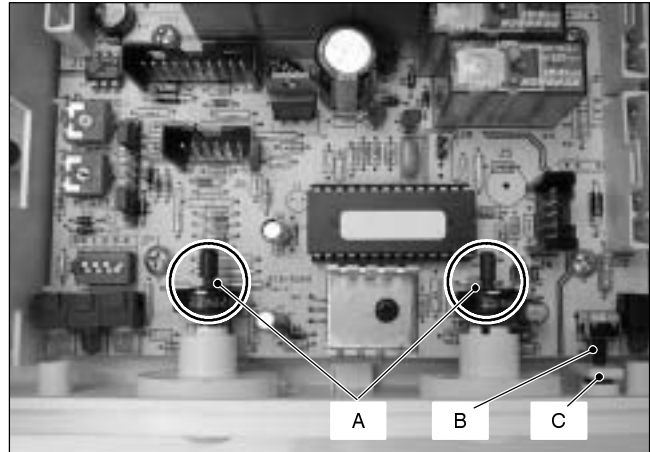

Fig. 39
- 8 Insert the spindles in the control panel knobs until the notch A (Fig. 39) reaches the potentiometer edge. It is not necessary to force them in the knob.
- 9 While tightening the screws that fix the Electronic control p.c.b. on the control panel, keep the p.c.b. towards the control panel fascia making sure of the contact between the boiler reset button B and the tab C (Fig. 39).